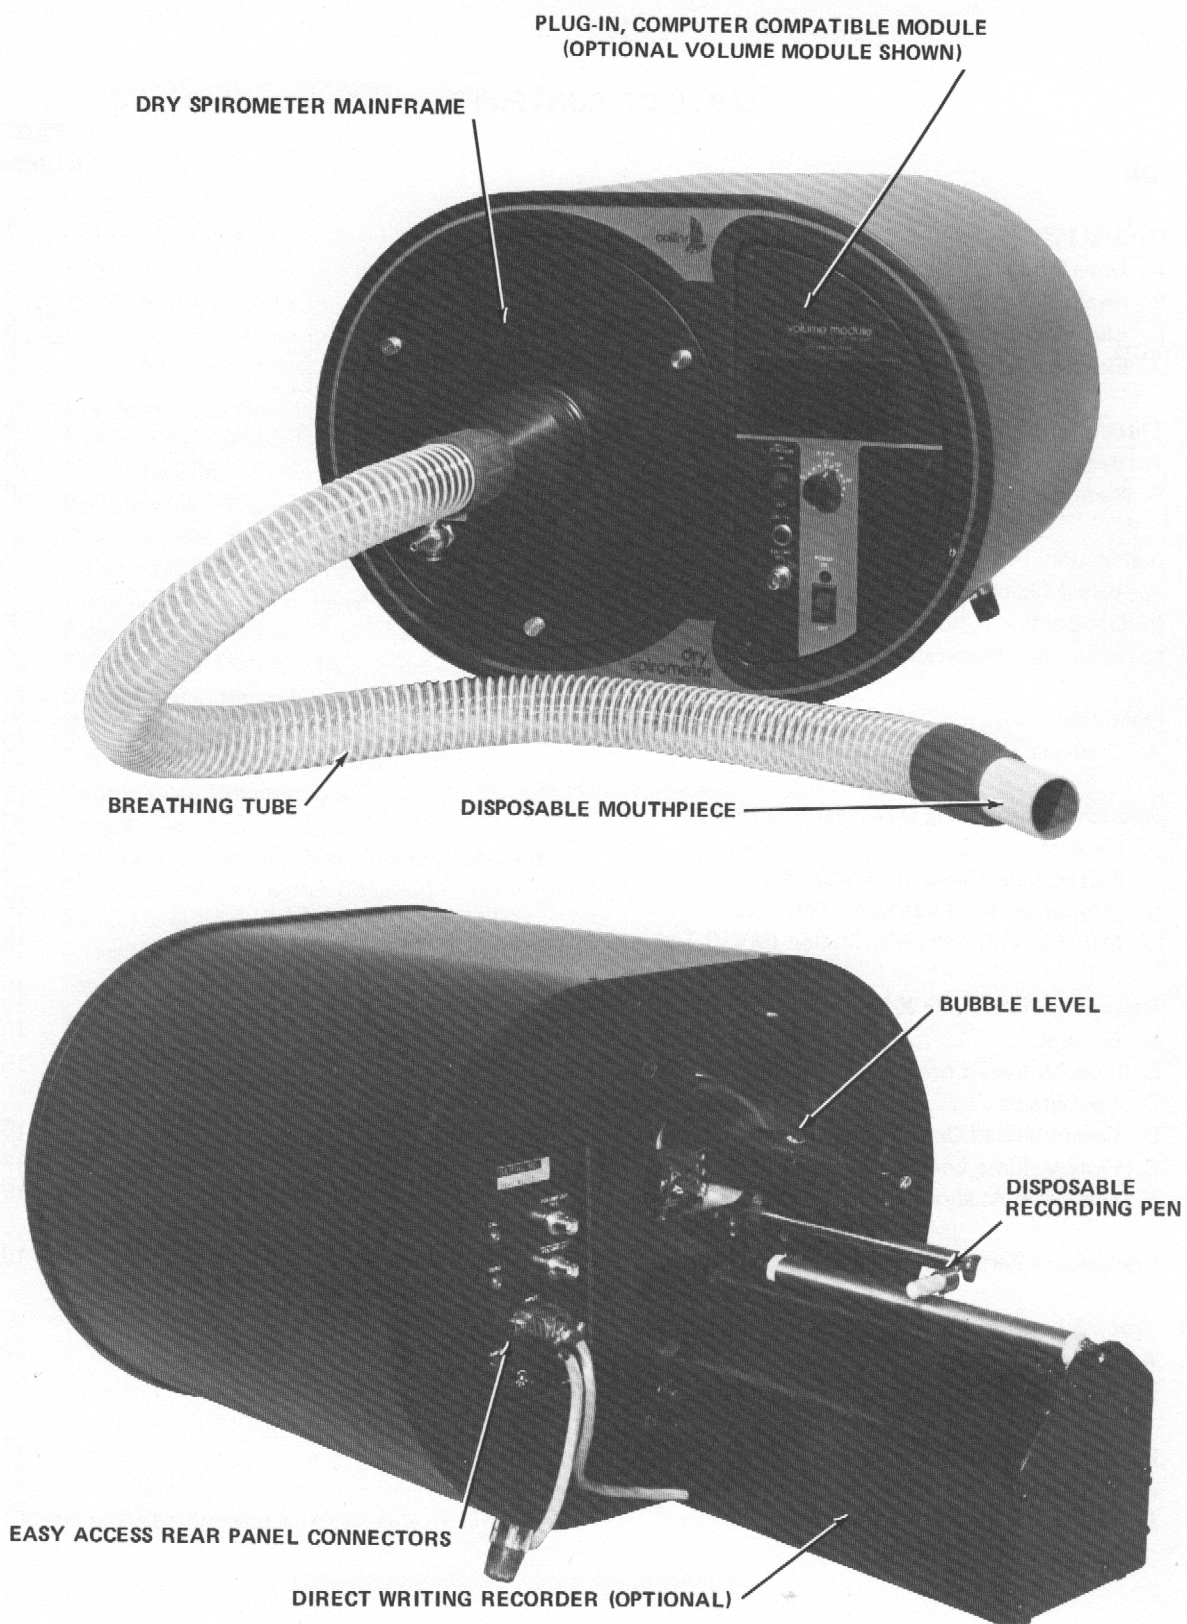

Figure 1 - Dry Spirometer Components
A.1. The Collins Dry Spirometer consists of two major components (plus four optional components). Although it is available in a variety of configurations, each unit consists of the dry spirometer mainframe and a plug-in test module. The components are held in rigid alignment with rugged aluminum castings and the entire spirometer is enclosed in an attractive metal cabinet. The basic equipment layout is shown in Figure 1.
- a. Breathing Tube (1)
- b. Breathing Tube Adapter (1)
- d. Rubber Tipped Noseclip (1)
- h. Dry Spirometer Overlay (1)